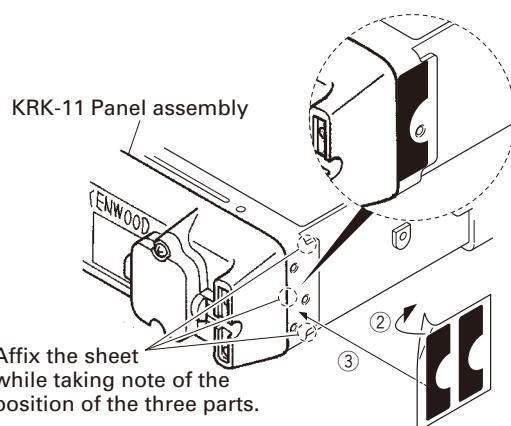

Fig. 1-1-2
4. Affixing the sheet (G11-4379-04) for waterproofing (Fig. 1-1-2).
- (1) Remove the cover paper from the sheet (②).
- (2) Affix the sheet while taking note of the position of the three parts as shown in Fig. 1-1-2 (③).